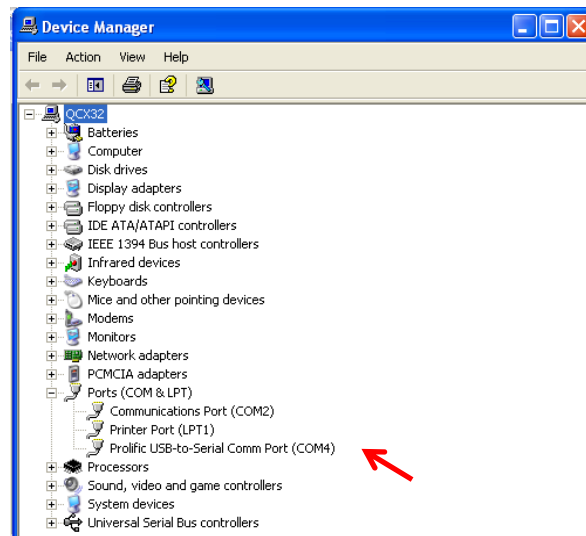

Figure 3-74: Device manager
- Step 2 If the COM port assigned to the GPS has changed from the one set at ASD or if configuring for the first time, open the Windows Device Manager (Figure 3-74). The Device Manager can be accessed by clicking the Start→Control Panel→System→Hardware→Device Manager. Note the port number (Example, COM4). This number will be necessary to remember for Step 4.